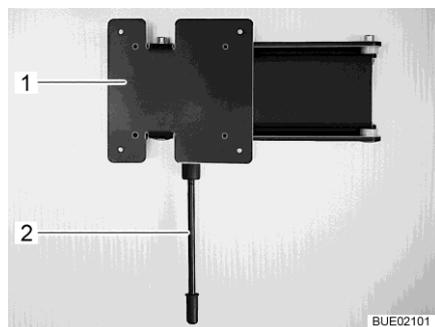

Fig. 110 Wall holder
- Pull down the release lever (Fig. 110,1) and turn the holder (Fig. 110,2) with the flat screen to the desired position.